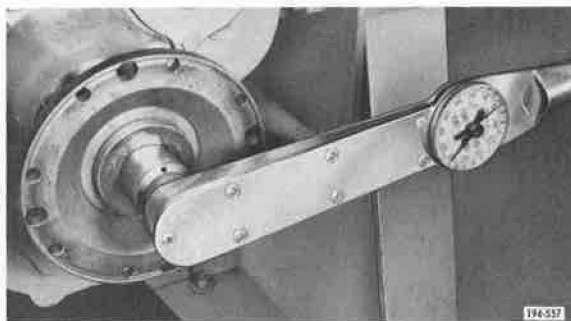

Figure 393. Torquing Capscrew
8. Place two sliding clutches into engaged position, which will lock up the mainshaft, and tighten drive flange (or yoke) clamp plate capscrew to 474 to 574 lb. ft. torque. Refer to Torque and Tolerance Table, Item 16. See Figure 393.